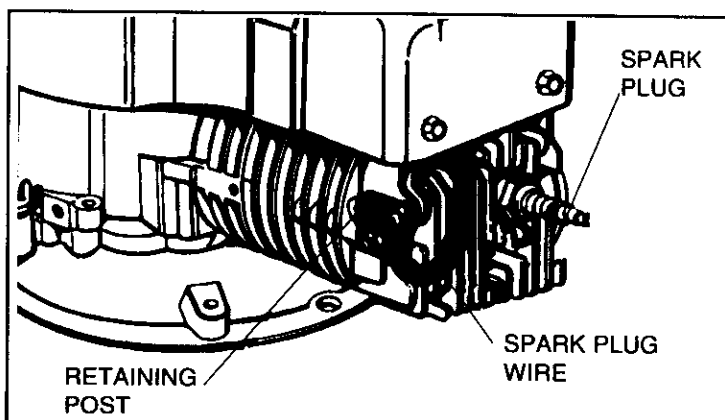

Figure 6
**DISCONNECT SPARK PLUG WIRE FROM SPARK PLUG AND ATTACH IT TO RETAINING POST (see Figure 6 on Page 3).**
**A. DISCONNECT SPARK PLUG WIRE FROM SPARK PLUG AND ATTACH IT TO RETAINING POST (see Figure 6).**